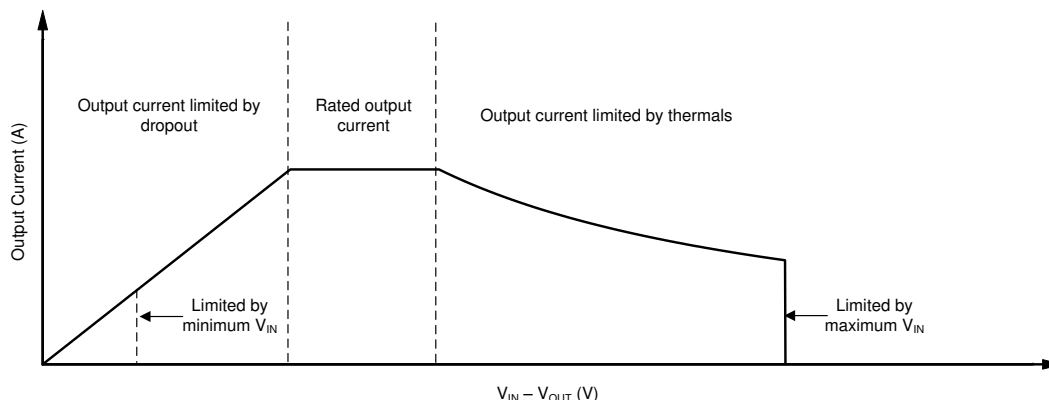

Figure 8-3. Region Description of Continuous Operation Regime
The operational area of an LDO is limited by the dropout voltage, output current, junction temperature, and input voltage. The recommended area for continuous operation for a linear regulator is given in 图 8-3 and can be separated into the following parts:
- The shape of the slope is depicted in the third region of 图 8-3. The slope is nonlinear because the maximum-rated junction temperature of the LDO is controlled by the power dissipation across the LDO. Thus, when $V_{IN} - V_{OUT}$ increases the output current must decrease.
Figure 8-3 shows the recommended area of operation for this device on a JEDEC-standard high-K board with a $R_{\theta JA}$, as given in the Thermal Information table.